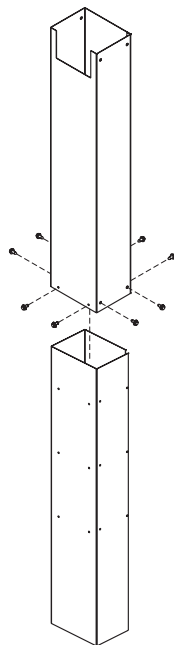

Figure 1
1. For two piece in-ground post using eight 10 x 1/2 Hex Head screws. Use black screws for black posts. For this application, use top set of holes in post assembly. See Figure 1.
- The rectangular cut-out is located near the TOP of the post and should be above ground after installation. See Figure 1.